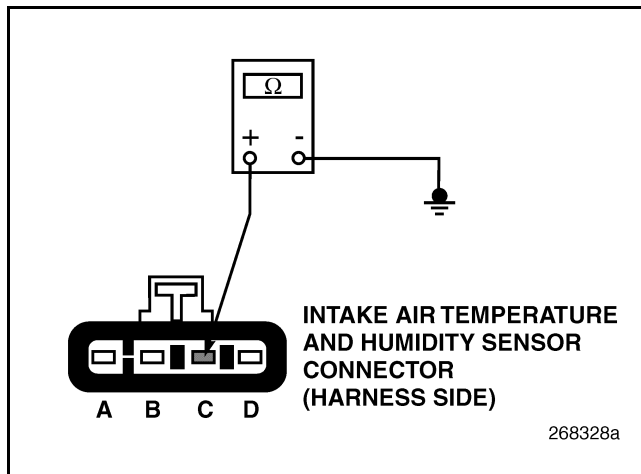

Figure 313
4. Check for continuity between pin C of the IATH Sensor harness connector and a good ground (see Figure 313).